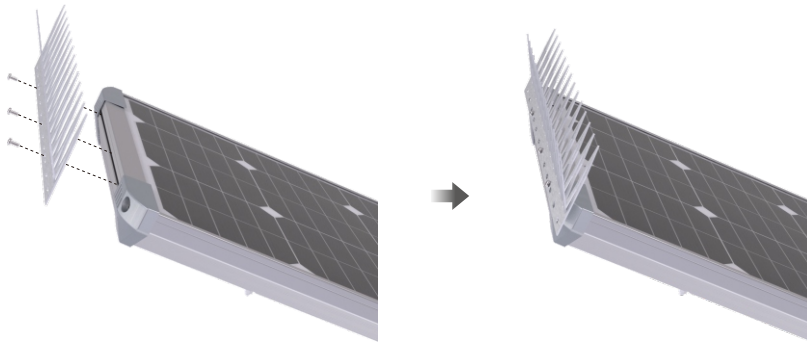

Figure 5
- 2 Use 3 self-tapping screws to fix the bird spike along the rim of the top of the light. (See Figure 5)